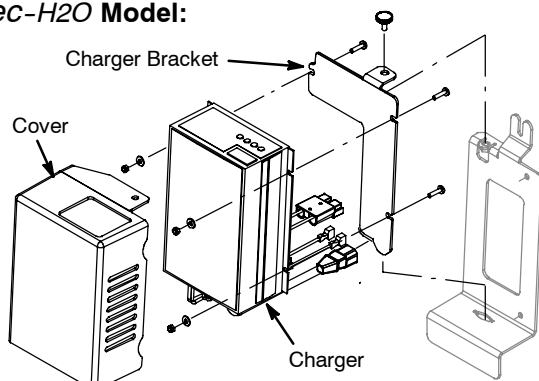

Fig. 6
6. Assemble the charger and cover to the charger bracket as shown (Figure 6).